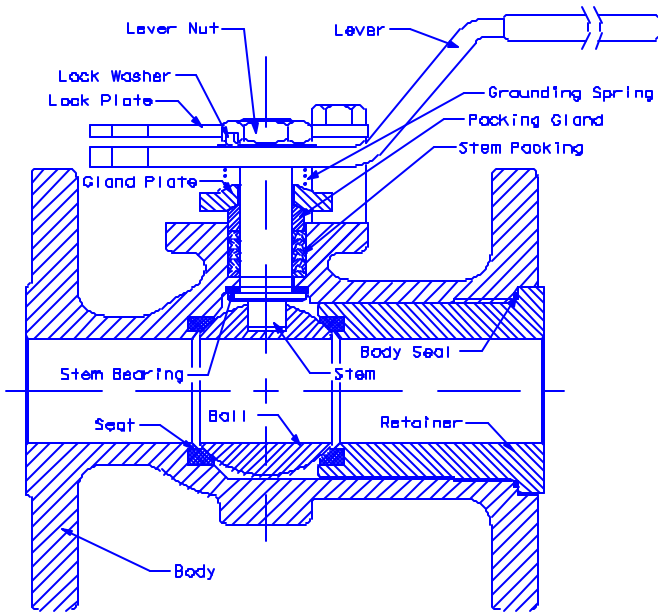

Figure 2: Typical One Piece Valve Assembly
- ***One Piece only*** Insert the retainer seat and thread the retainer into the body. See Figure 2.